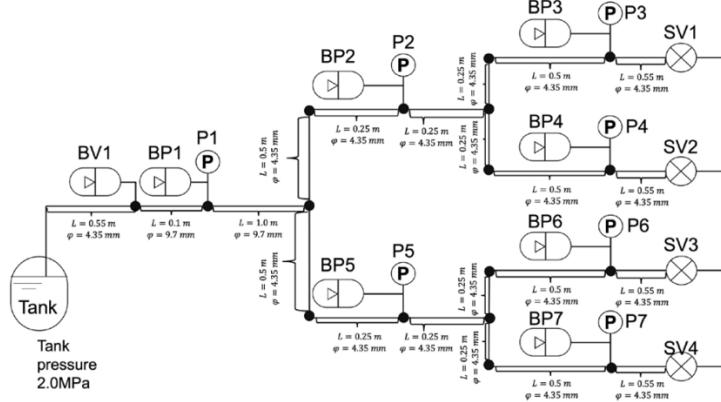

Figure 1: Schematic of experimental propulsion system.
- Figure 1 shows an experimental propulsion system. The working fluid is water pressurized to 2 MPa and discharged through four solenoid valves (SV1 - SV4) simulating thrusters.
- There are eight possible locations, BV1 and BP1 to BP7 as shown in Fig.1.
- In each CSV file, the first column is time, and the remaining columns are pressure at the measurement points P1 – P7 as shown in Fig. 1.